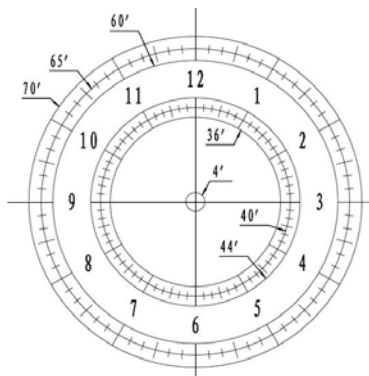

Figure 17. Polar Scope
As indicated in **Figure 17**, the Polar Scope reticle has been divided into 12 hours along the angular direction with 10 minute tics. There are 6 concentric circles in 2 groups of 3 marked from 36' to 44' and 60' to 70', respectively. The 36' to 44' concentric circles are used for polar alignment in the Northern Hemisphere using Polaris, while the 60' to 70' circles are used for polar alignment in Southern Hemisphere using Sigma Octantis.
- (1) Set the mount face North with your latitude. Connect the hand controller and power the mount on.
- (2) Take off the Polar Axis Cover and Polar Scope Cover. Release CW shaft locking screw to release the CW shaft from the mount body, if no CW is used.
- (3) Look through the polar scope to make sure that the DEC axle is not blocking the polar scope view. If you can't see through the polar scope, press the UP or DOWN button to rotate the DEC axle until the opening on the DEC axle is aligned with polar scope path. Press the number key to change the speed.
- (4) Press **MENU**=> "**Settings**"=> "**Set Eyepiece Light**" to adjust the LED brightness to a comfort level. Adjust polar scope eyepiece to bring the polar scope dial (**Figure 17**) in focus. The polar scope had been adjusted in factory for normal eye sight so when the polar scope dial is focused,
- (5) Slightly release R.A. Clutch Screw. Press the LFTT or RIGHT button on the hand controller to rotate the polar scope to align the 12 o'clock position of the dial on the top, as shown in **Figure 17**.